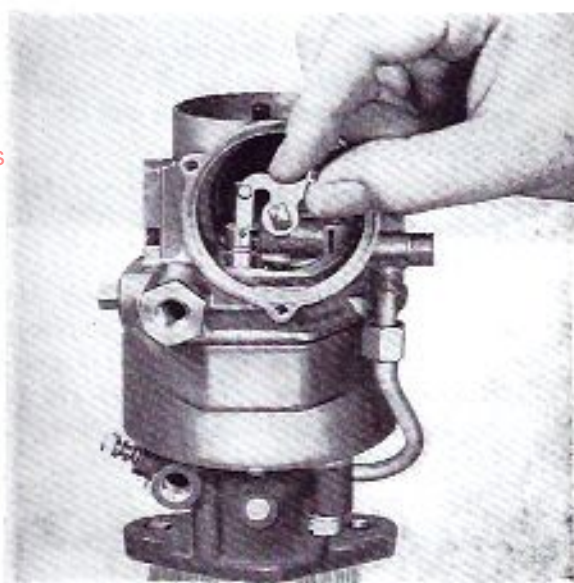

Figure 10
11. Assemble choke piston to shaft with pin and place into choke housing bore as shown in Figure 10. Rotate choke shaft counter-clockwise so that piston rides in housing cavity.